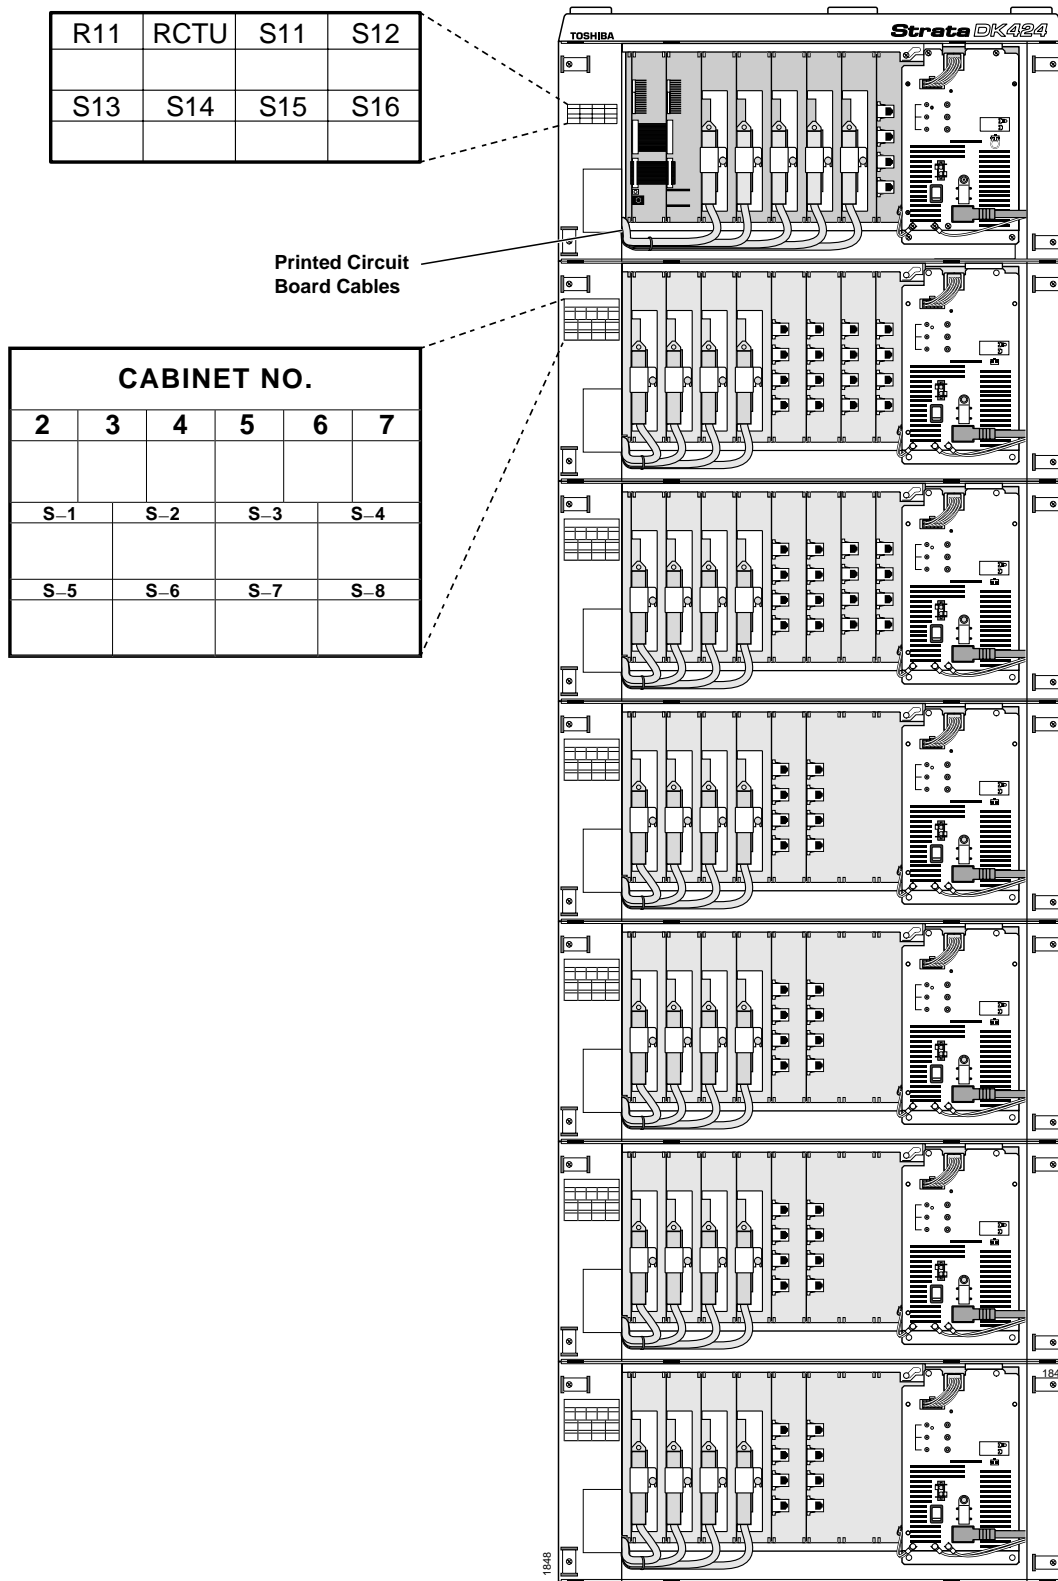

Figure 5-11 Front View of DK424 Cabinet Interior
14. Fill out the slot identification label on the cabinet (see Figure 5-11).
7. Fill out cabinet/slot identification labels on cabinet(s) (Figure 5-11).